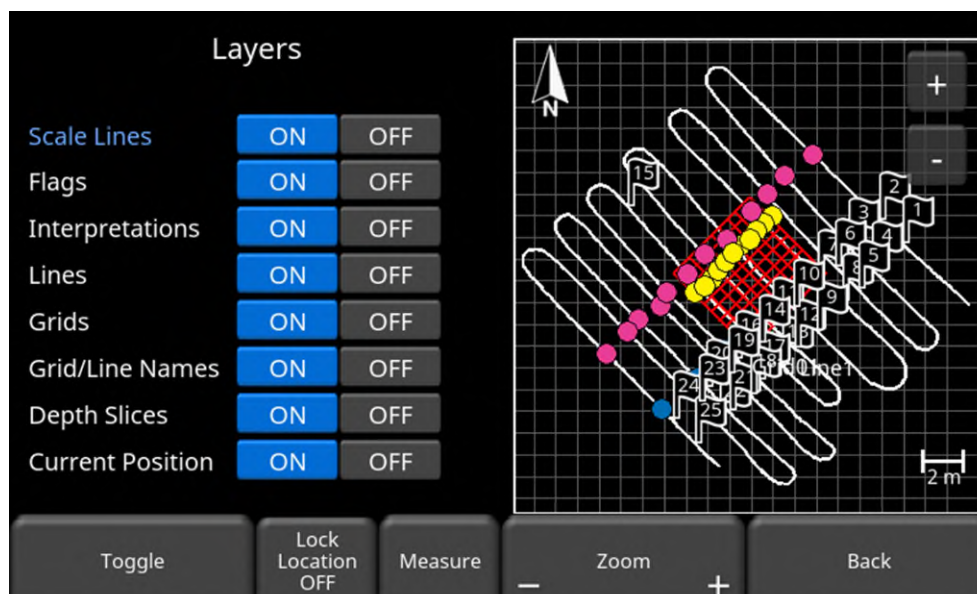

Figure 9-4: Setting layer options in MapView
- Pressing Options will display the screen shown in Figure 9-4 allowing you to customize the layer view. This is explained in the section below.
Pressing the **Options** button will allow you to customize what is shown in the MapView display. The screen will be split between the Layer options on the left and the MapView display on the right (Figure 9-4).
- Lines – turning this off will remove all collected lines from the display (white lines in Figure 9-4)
- Grids – turning this off will remove all grids (red grid in Figure 9-4)